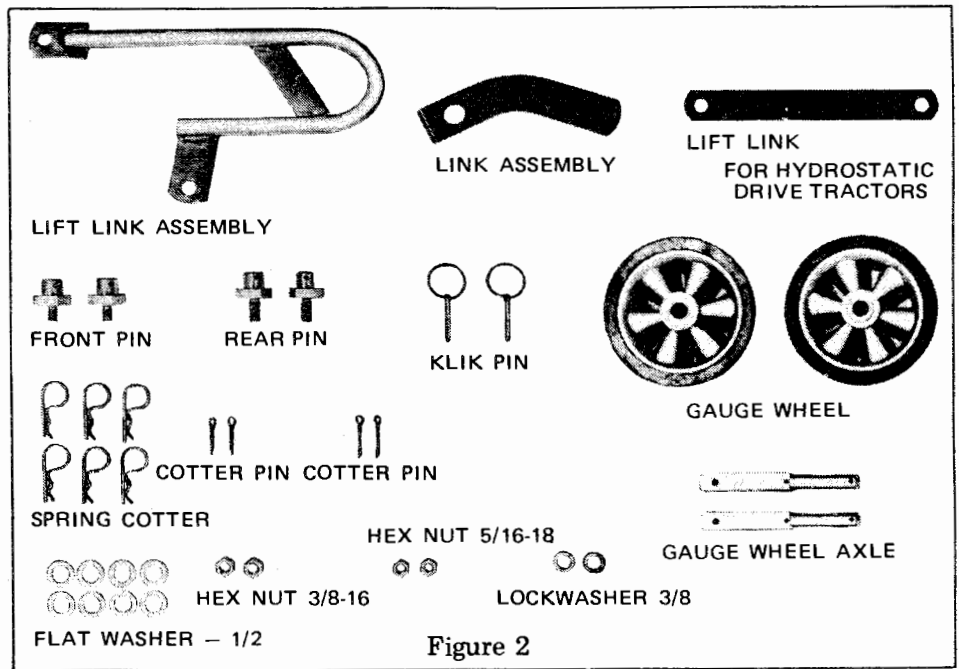

Figure 2
1. Count the loose parts and check against (Fig. 2).
On the Gear Shift tractors, lift link assembly (see figure 2) must be used. Install the link assembly with the short leg attached to the attachment lift lever. The bend is to point to the front of the tractor with the long leg of the link assembly in the upper plane. See "L" figure 4.
On the Hydrostatic Drive tractors, lift link (see figure 2) must be used. See "K" figure 5.